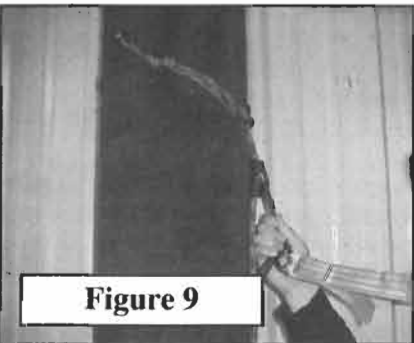

Figure 9
4. Slide adjustable prussic hitch up the safety rope to a comfortable hunting position and pull on the end of the prussic hitch to secure it to the safety rope. See **Figure 9**.